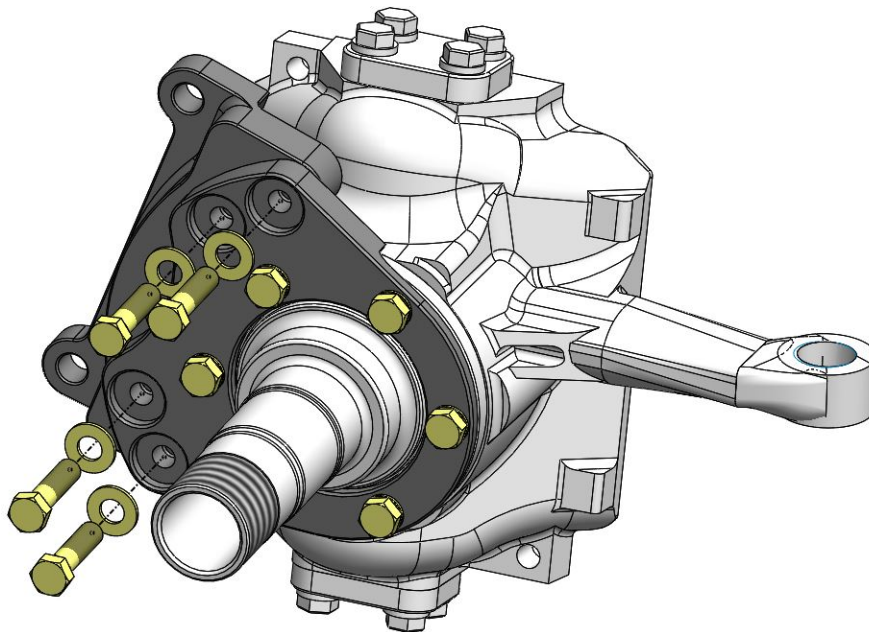

Figure 4 – Installing the Secondary Caliper Mounting Bracket
10. Position the secondary caliper mounting against the primary bracket and bolt together using the 3/8"-24 x 1-1/2" Grade 8 Hex Head Bolts and the 3/8" SAE Flatwashers. When assembling together, make sure the machined reliefs in the bracket is in the proper position to clear the casting of the knuckle. Only lightly tighten these bolts at this time as they will possibly be removed later when shimming the calipers. Figure 4 below shows the bracket being installed.